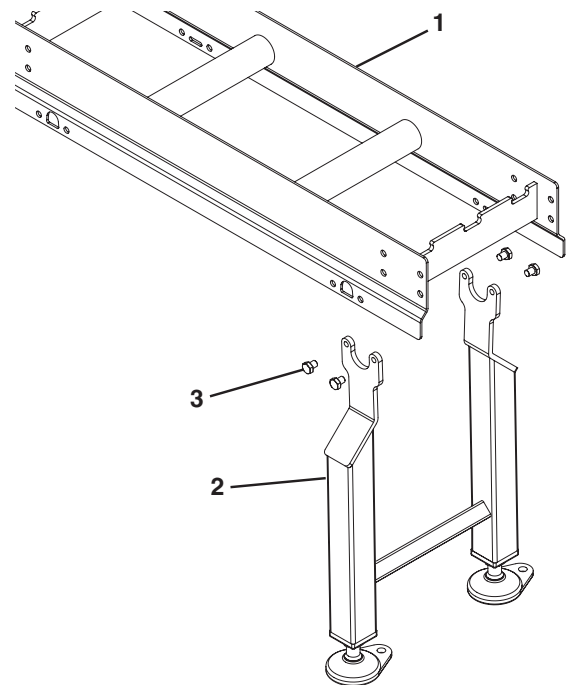

**Figure 9**
- Attach the flat connectors (**Figure 9, item 1**), if applicable, to the inside of the frame sections.